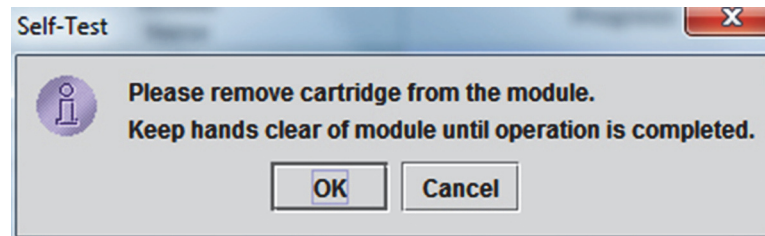

Figure 9-14. Self-Test Dialog Box
- Click **Self-Test**. The Self-Test dialog box appears. See Figure 9-14.